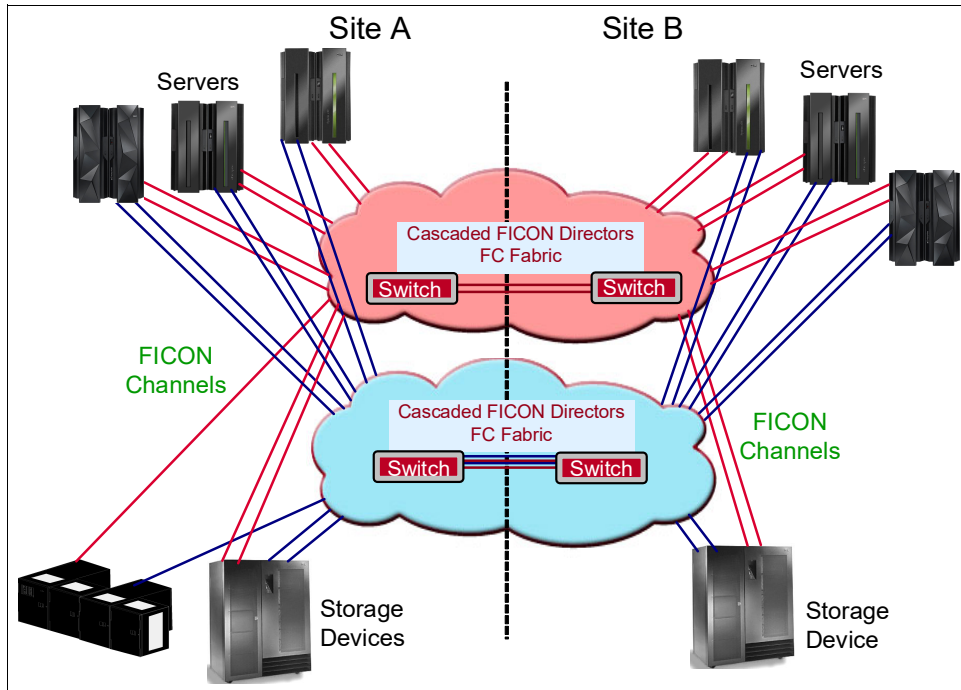

Figure 3-10 Two-site FICON connectivity with cascaded directors
Cascaded support is important for disaster recovery (DR) and business continuity solutions, as shown in Figure 3-10 on page 69. It can provide high availability (HA) connectivity and the potential for fiber infrastructure cost savings for extended storage networks. FICON two-director cascaded technology allows for shared links, so it improves the usage of connected site resources and infrastructure. Solutions such as IBM GDPS can benefit from the reduced intersite configuration complexity that is provided by FICON support of cascaded directors.